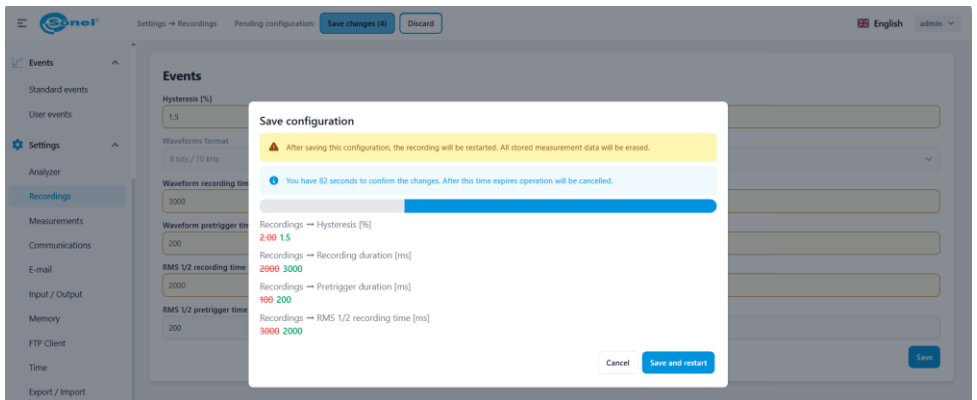

Fig. 6. List of changes made to settings and confirmation of changes
- After clicking **SAVE CHANGES** a window will be displayed with a list of all changes made (the current setting and the new setting). The user is informed whether saving the new configuration will result in restarting the recording or whether there will be no need to do so. Pressing **SAVE AND RESTART** saves the new settings in the analyzer, deletes all data from the memory card, and starts a new recording (Fig. 6). On the other hand, if the button is labeled only as **SAVE**, the data from the card will not be deleted, and recording will continue without interruption. The user has a time period to confirm the changes, indicated by a progress bar.